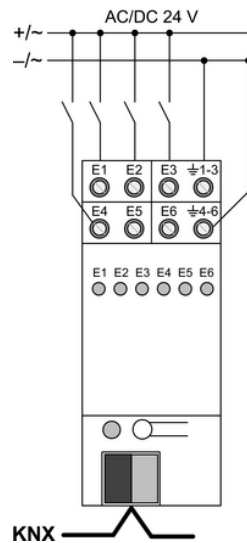

Figure 4: Connection example for 24 V binary input
- Connect device as shown in the connection example (figure 4). Common reference potential for inputs **E1...E3** and **E4...E6**.